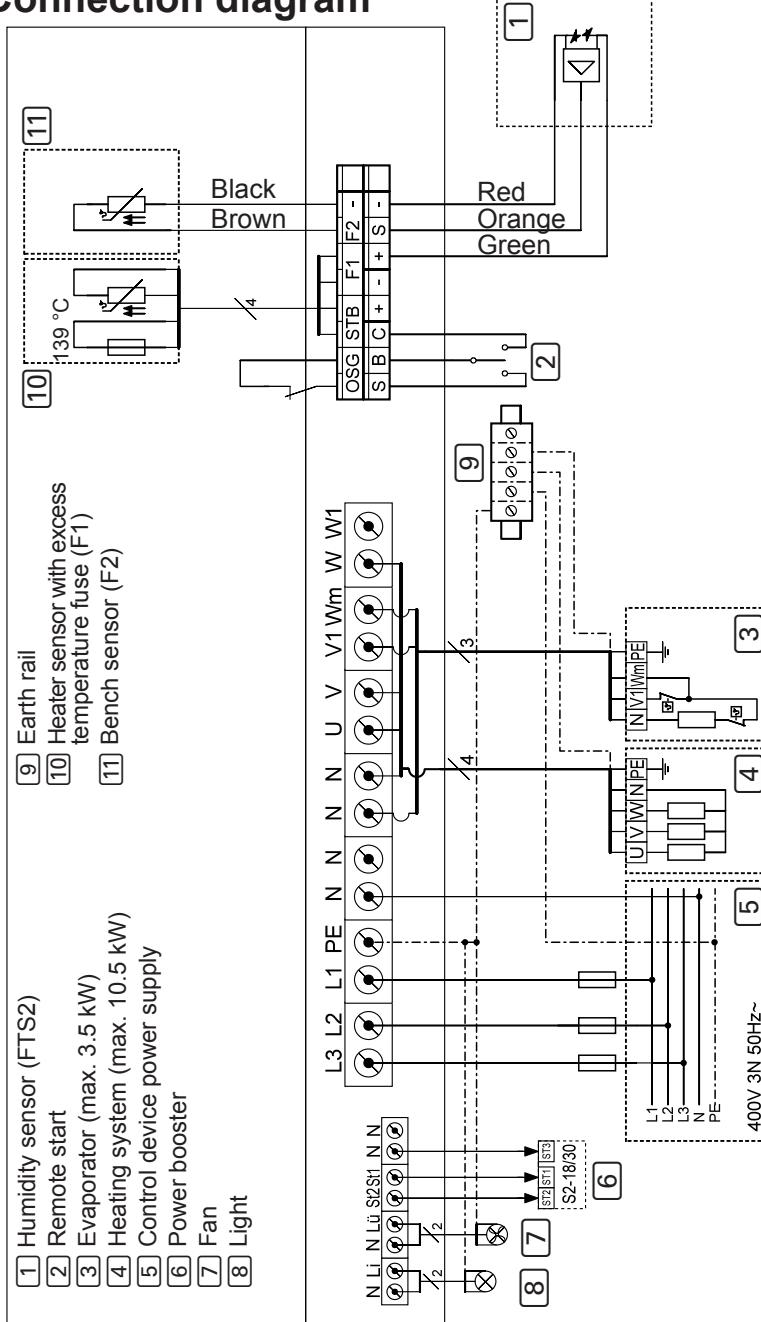

Fig. 4 Connection diagram
- Observe the connection diagram (**Fig. 4**) on page **24**.